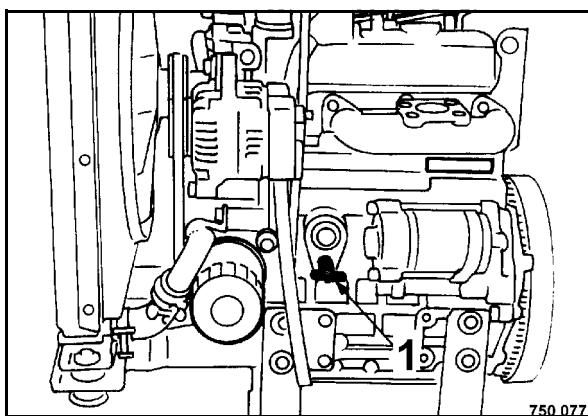

Fig. 128
- Open the drain valve (Fig. 128) on the engine.